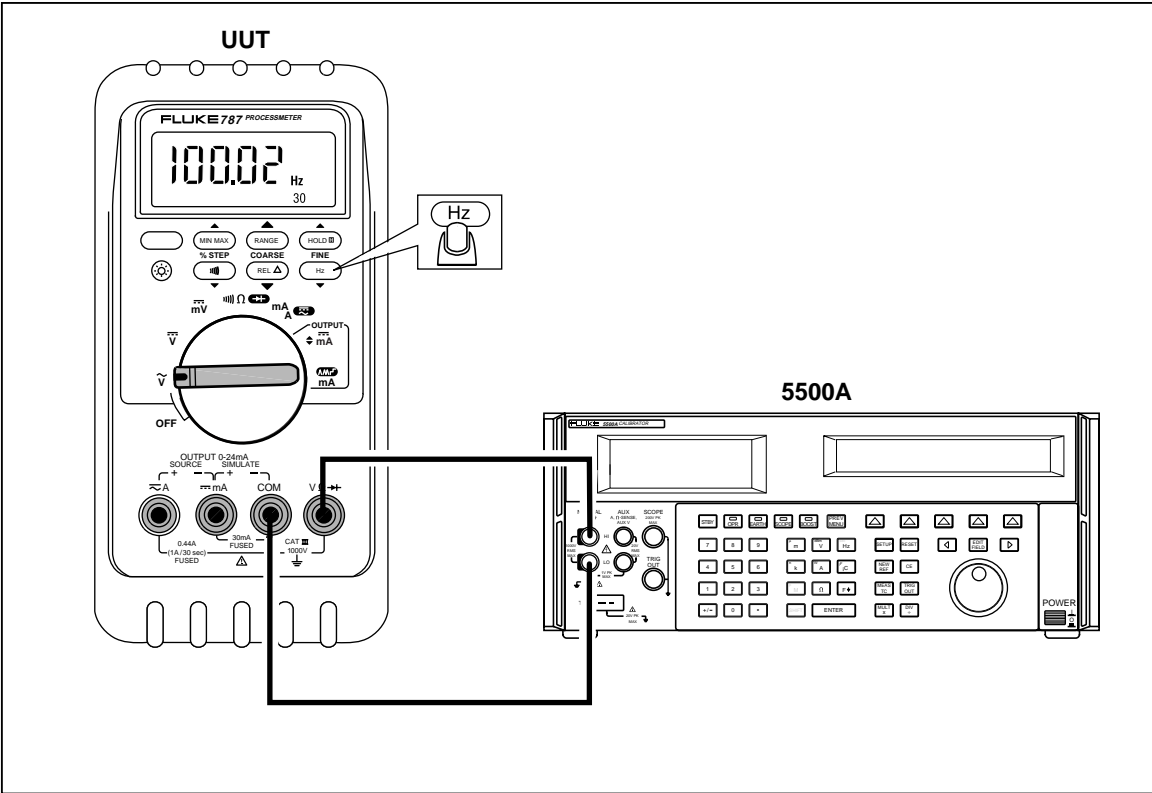

Figure 11. Frequency Measurement Test Connections
- 4. Connect the calibrator to the **COM** and **V Ω →** terminals on the UUT as shown in Figure 11.